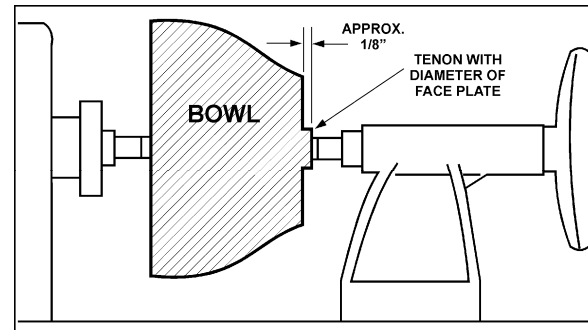

Figure 38
8. Turn a short tenon (about 1/8" long) the size of the hole in the faceplate. See Figure 38. This will allow centering the workpiece when the faceplate is attached.